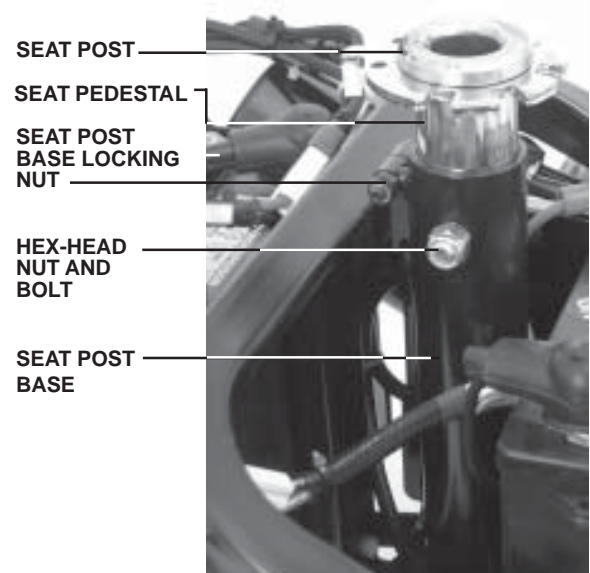

Figure 11. Seat Height Adjustment
- Use a 14-mm spanner to loosen and remove the hex-head nut and bolt. See figure 11.